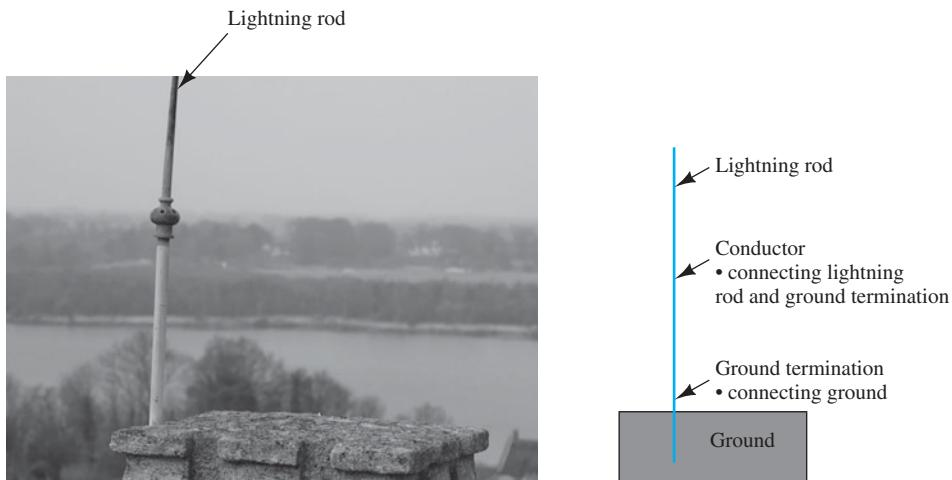

FIGURE P15.12 Building with a lightning rod and the basic structure of it. (Used with permission from © Michael Hawkrige/Alamy.)
- 15.12** (B) Why can a lightning rod installed on the top of a building protect the building from lightning strikes (see Figure P15.12)?